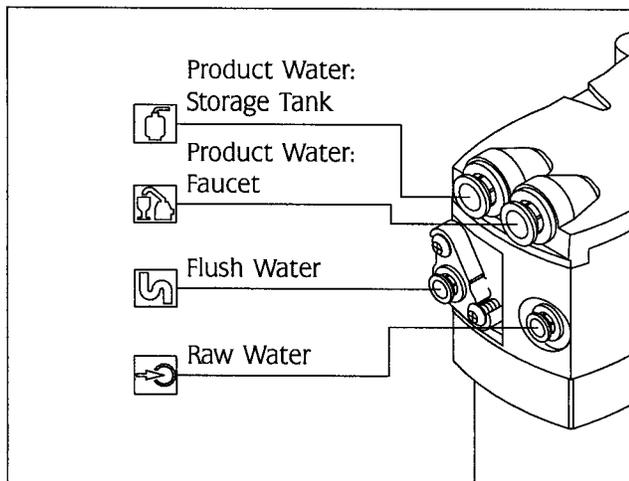

FIG. 5
1. Pull the u-clip from the rear of the particle filter housing ①
5. Using 1/4" OD plastic tubing, connect the inlet of the system (Fig. 5) to a source of clean filtered water.
1. Connect a length of 3/8" OD plastic tubing between the tank valve and (Fig. 5) the product water fitting  on the manifold.